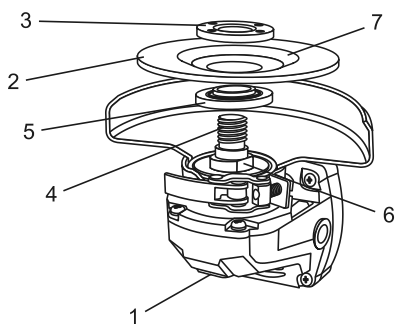

Fig. 5
2. Depress the spindle lock button (1) and rotate the grinding disc (2) until the spindle locks (Fig. 5).